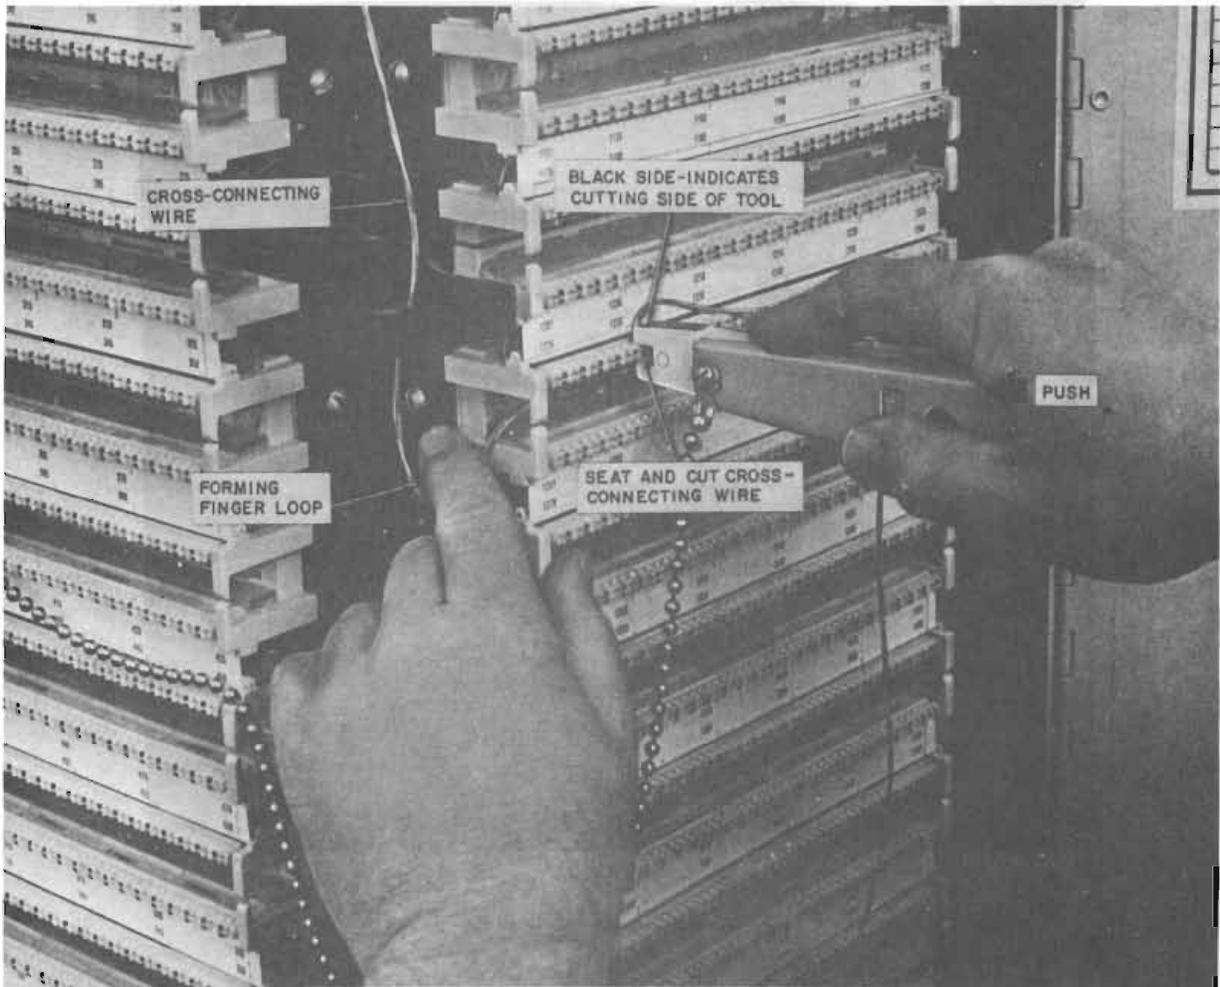

Fig. 7—Seating and Cutting Cross-Connecting Wire
3.04 Push the wire to the back of the cross-connecting space of wiring block. Remove and discard waterproof cap, then insert the cross-connecting wire in the slots containing the assigned distribution pair. Using the insertion cut-off tool, seat and cut-off the cross-connecting wire (Fig. 7).